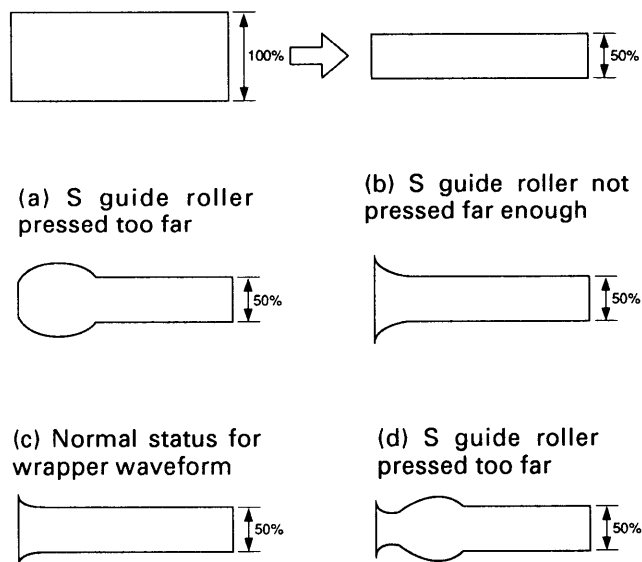

Fig.4-3-4
- ① Press the tracking button (Channel-), and check whether, when the envelope waveform has reached 50% of its maximum, the front half of the envelope waveform is flat. If not, fine-tune the S guide roller as follows.
- a. If the front half of the envelope waveform is as shown in Fig.4-3-4 (a), this means that you have pressed the S guide roller too far. Therefore, loosen it slightly, and when it is in the state shown in Fig.4-3-4 (b), tighten it again, stopping when the envelope waveform is flat.
- b. If the front half of the envelope waveform is as shown in Fig.4-3-4 (b), this means you have not pressed the S guide roller far enough. Therefore, tighten it slightly, stopping when the envelope waveform becomes flat.
- c. If the front half of the envelope waveform is as shown in Fig.4-3-4 (c), it may happen that when you tighten the S guide roller, the wrapper waveform does not disappear, but sinks into the flat part, as shown in Fig.4-3-4 (d). If this happens, the status shown in Fig.4-3-4 (c) is normal, so loosen the S guide roller, then tighten it again until the envelope waveform is as shown in Fig.4-3-4 (c).
- ② Check that at the tracking centre, the output of the front half of the envelope waveform is not less than 80% of the maximum.
- ③ Rotate the S guide roller 20° anticlockwise.
- ① Press the tracking button (channel-) and check whether, when the envelope waveform is 50% of maximum, the back half of the envelope waveform is flat. If not, loosen the T guide roller slightly, then tighten it gradually until the back half of the envelope waveform becomes flat.
- ② Check that the output for the back half of the envelope waveform is at its maximum at the tracking centre.